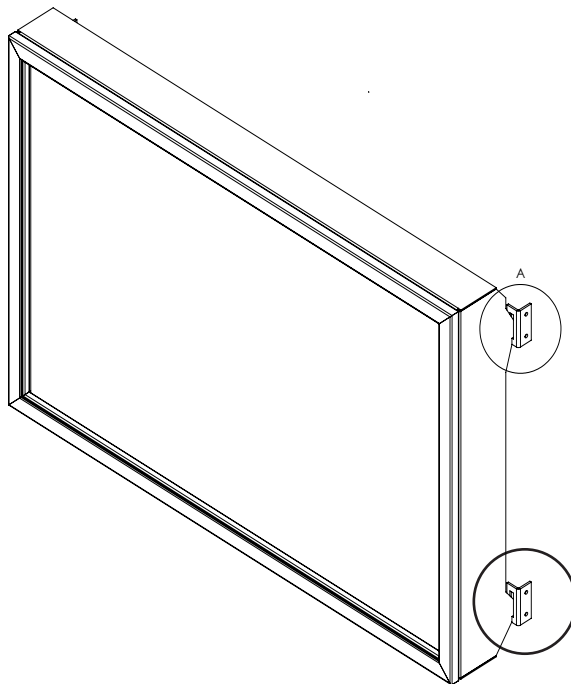

Figure 53: Installing Safety Screen onto Cabinet Bracket (Parts removed for clarity)
2. Lift the face upright in front of the fireplace with the four (4) hooks pointing towards the fireplace. Slide the hooks into the corresponding brackets on each side of the cabinet (see Figure 53). Ensure the hooks are secure before releasing the safety screen.